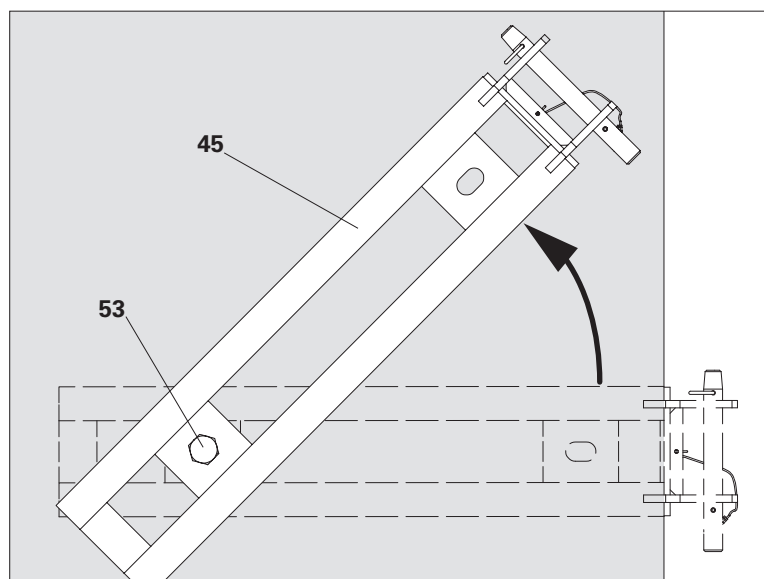

Fig. D1.12b
6. Remove bolt M24 x 70. (Fig. D1.12b)